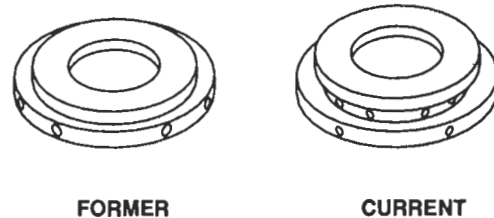

Figure 11. Former and Current Thrust Collar (T18A40)
4. Install a new piston ring(s) on the thrust spacer and gently insert the spacer into the backplate assembly. With the T18A40 turbocharger, make sure the current small diameter thrust spacer (.672–.673 inch) is used with the current thrust collar (Figure 11.) The former spacer was .677–.678 inch in diameter. The current thrust spacer has two grooves. When replacing the former one groove spacer with the two groove spacer, be sure and include two piston rings. Do not force the piston rings into place.